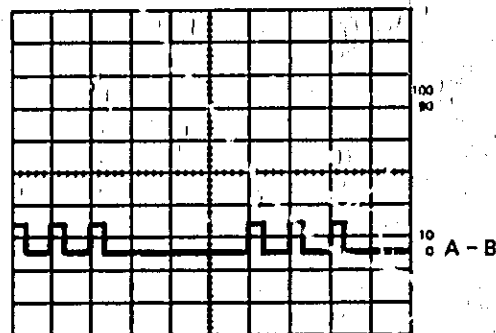

Figure 3-19. Resultant Display
f. With either channel A or B VOLTS/DIV vernier **48**, adjust for minimum deflection in common-mode signal. The resultant display will either subtract all of unwanted component or display desired signal larger than common-mode signal (figure 3-19).